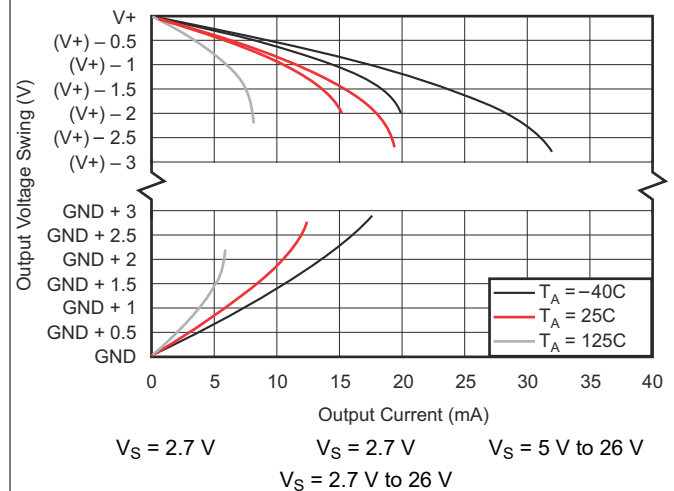

Figure 5-10. Output Voltage Swing vs Output Current
- (1) RTI = referred-to-input.
- (2) See Typical Characteristic curve, *Output Voltage Swing vs Output Current* (Figure 5-10).